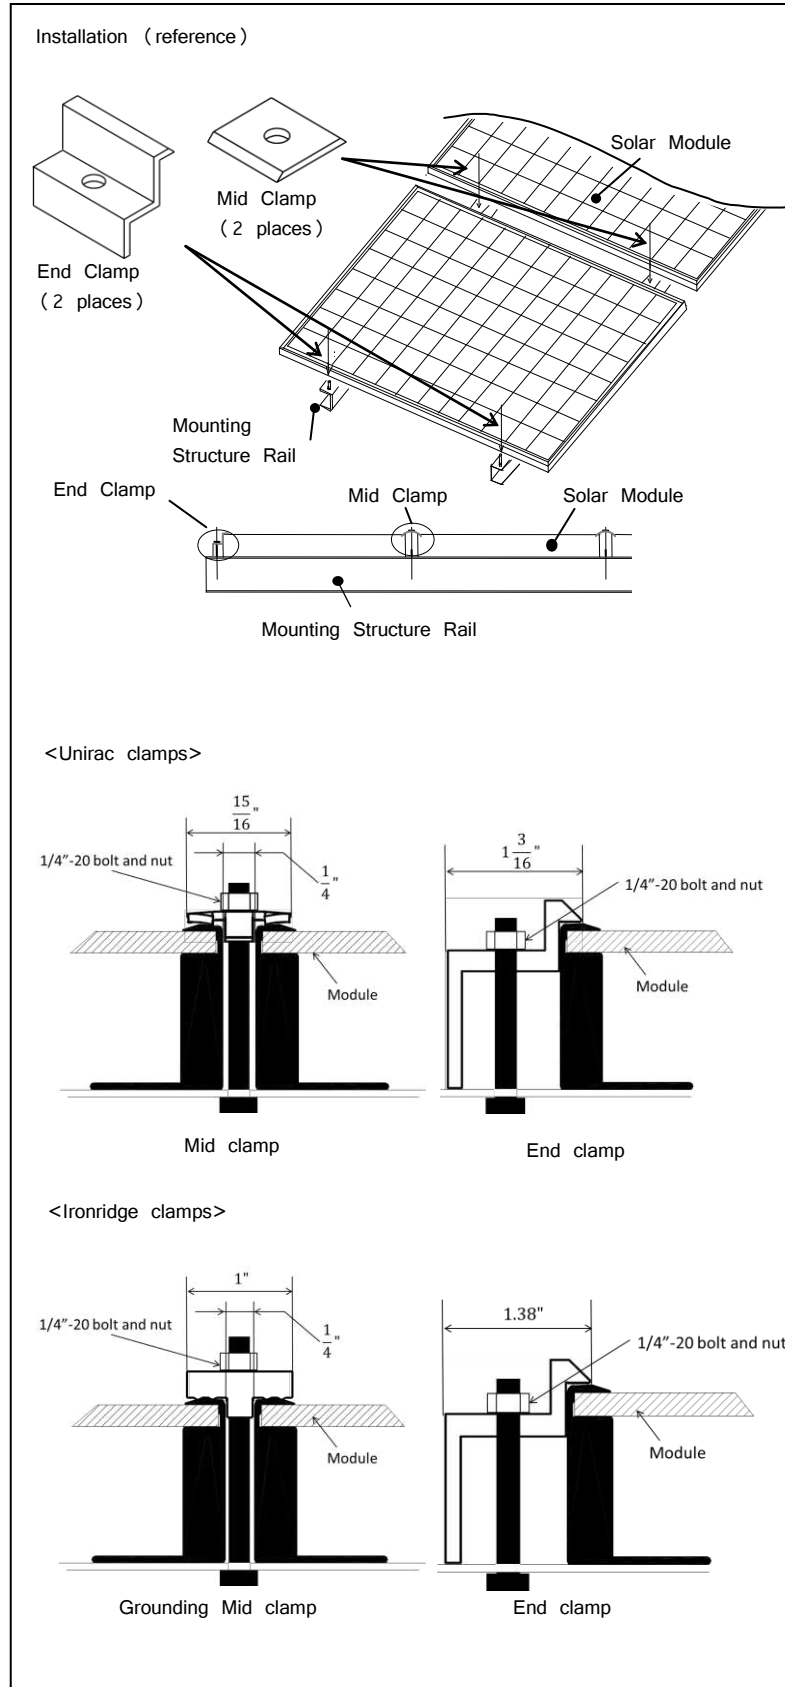

Figure 1. Installation
- Panasonic recommends the installation method and mounting profile shown in Figure 1
- The module was tested using Unirac or IronRidge clamps with the specifications see figure 1 and below;